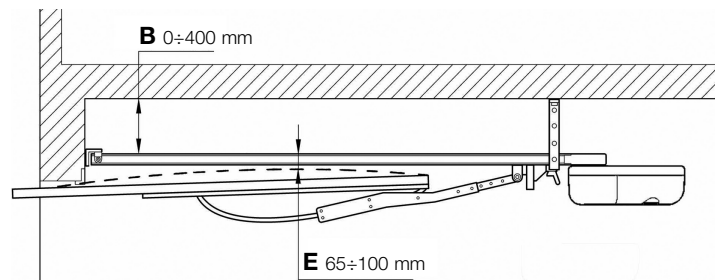

Figure 9
- Make sure that distance [E] in Figure 9, i.e. the minimum distance between the upper side of the guide and the maximum point reached by the upper edge of the door, is no shorter than 65 mm and no longer than 100 mm, otherwise GD cannot be installed.